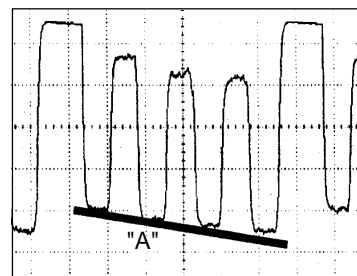

Fig. 2-2
4. Press the VOL. UP/DOWN button on the remote control until the section "A" becomes a straight line **(Refer Fig. 2-2)**.